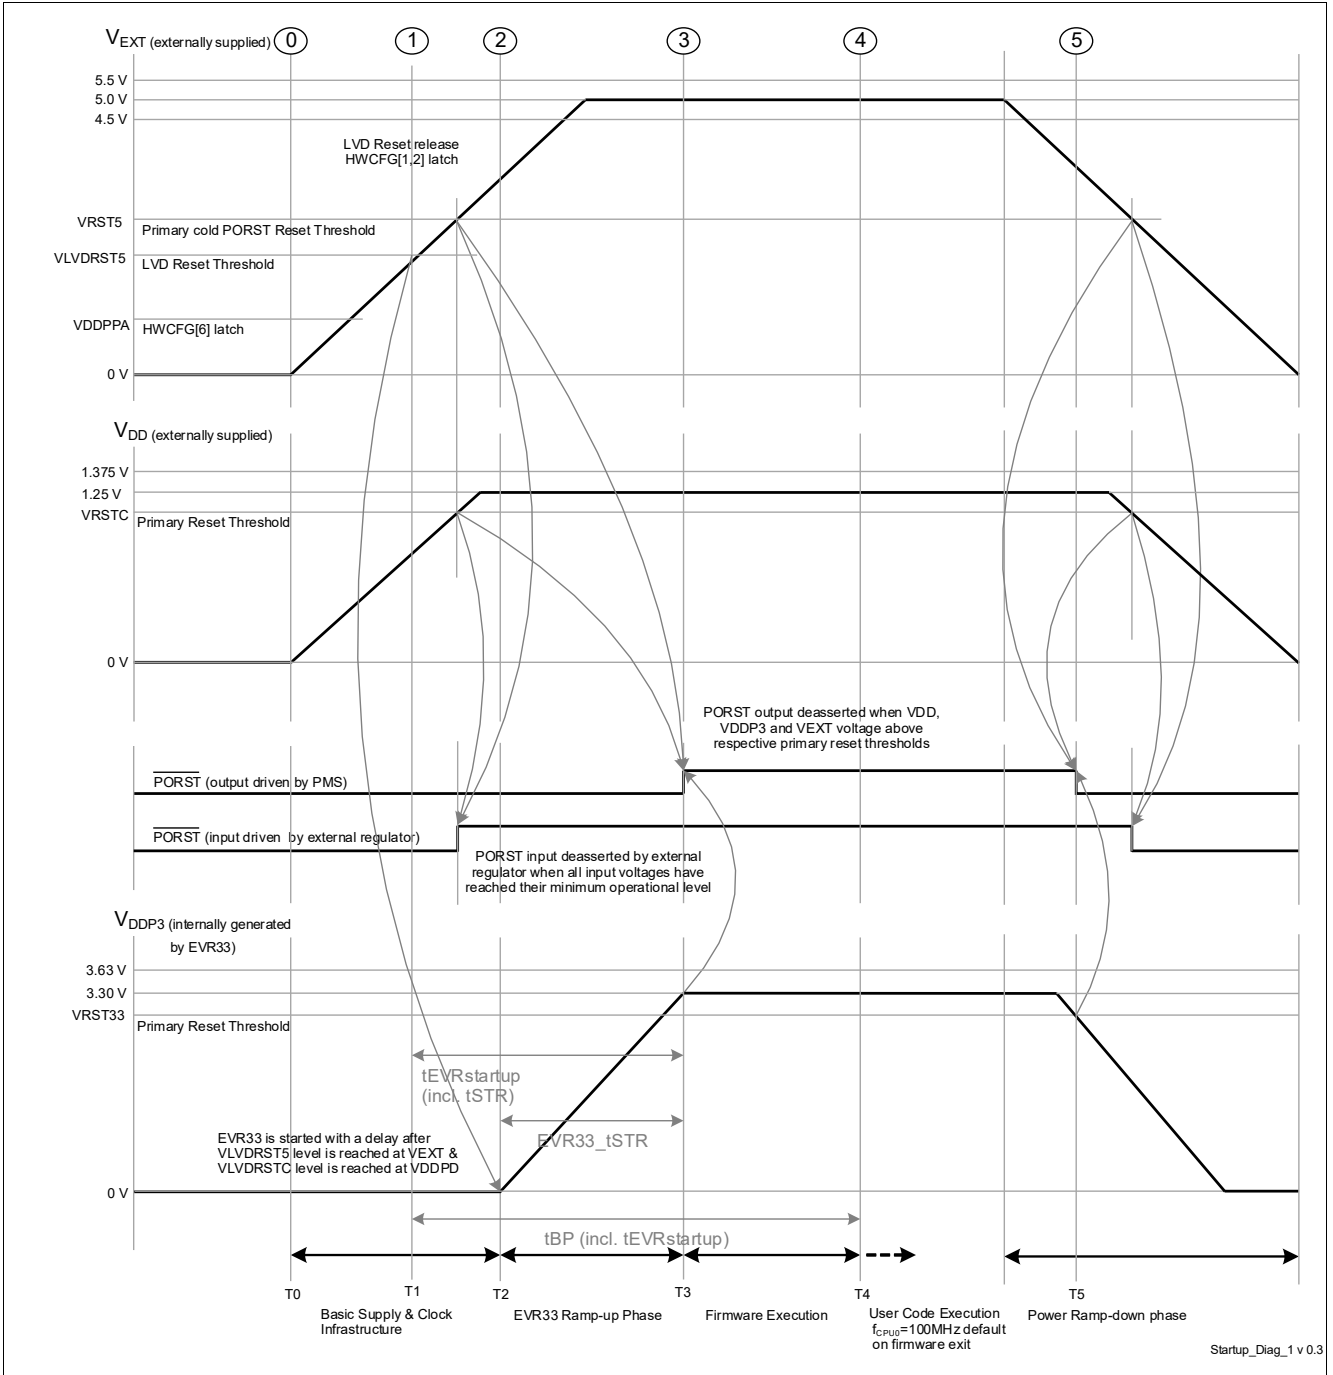

Figure 3-5 External Supply mode (d) - VEXT and VDD externally supplied
- The power sequence as shown in **Figure 3-5** is enumerated below